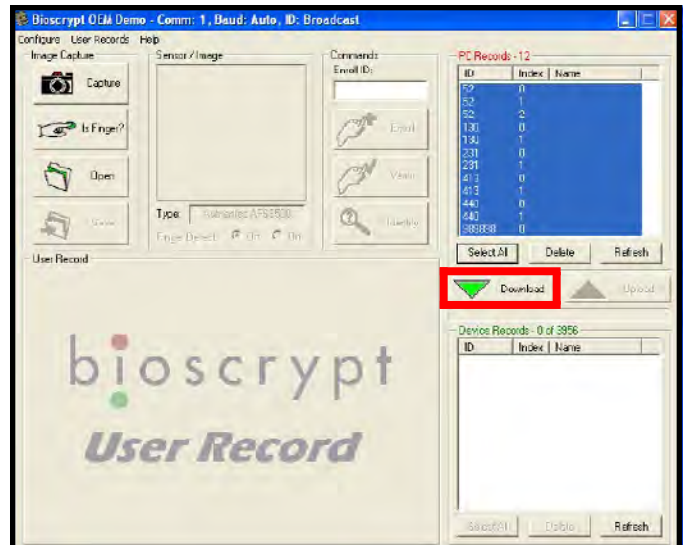

Figure 47. Bioscrypt, downloading templates to the Smart Clock
- III. Once selected, click the "Download" button to copy the files over to Smart Clock (see Figure 47).